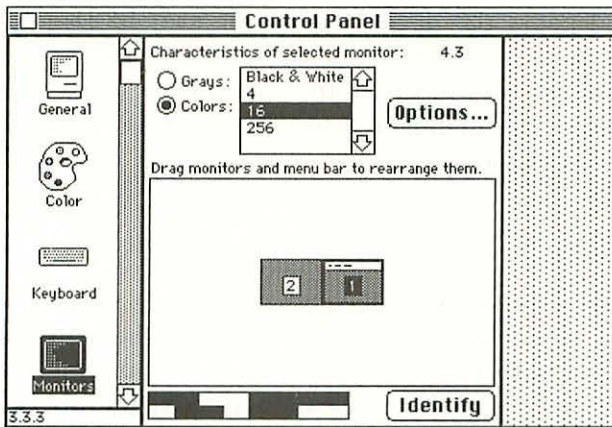

Figure 3-21 Use the Monitors control device (CDEV) to set the Characteristics of selected monitor to 16 (or more) colors.
3. If necessary, choose Control Panel from the Apple menu and use the Monitors control device (CDEV) to set the Characteristics of the selected monitor to 16 (or more) colors, as shown in Figure 3-21. Set it to the highest number available.
3. If necessary, choose Control Panel from the Apple menu and use the Monitors control device (CDEV) to set the Characteristics of selected monitor to 16 (or more) colors, as shown in Figure 3-21.